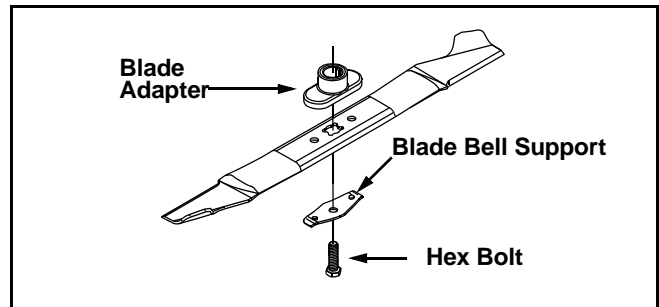

Figure 12
- Remove the bolt and blade bell support which hold the blade and adapter to the engine crankshaft. See Figure 12. Remove the blade and the adapter from the crankshaft.
- Place blade bell support on blade. Make sure the notches on the blade bell support are aligned with the small holes in the blade. See Figure 12.